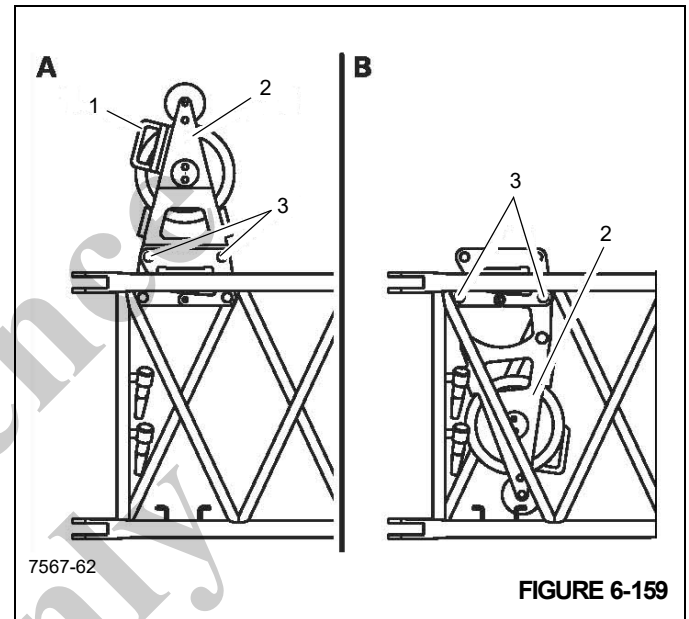

FIGURE 6-159
- Remove the retaining clips from the pins (3), (Figure 6-159).
- Hold the deflection sheave by the handle (1) and pull out the pins (3).
- Fold the deflection sheave (2) downwards and fasten it in this position with the pins (3).
- Secure the pins (3) using retaining clips.